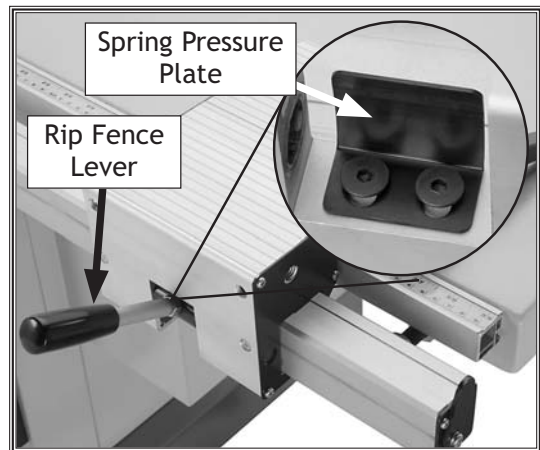

Figure 20. Location of spring pressure plate for fence slide adjustments.
Note: The fence should slide smoothly on the rail; if it doesn't, remove the fence base and adjust the spring pressure plate mounting position on the fence base (see **Figure 20**), by loosening the two screws and repositioning the pressure plate slightly.
- Thread the rip fence lever into the fence base (**Figure 20**), tighten the hex nut against the rip fence base to keep the lever in place.